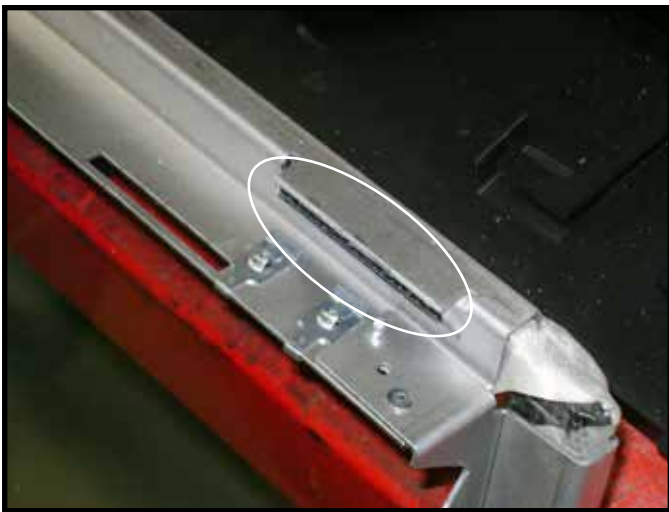
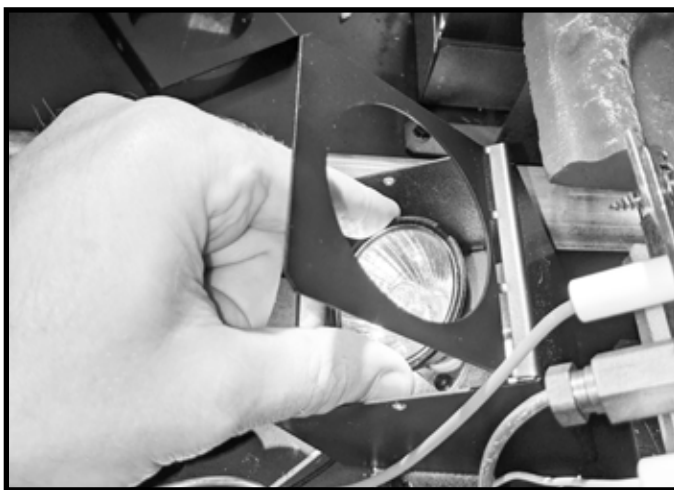
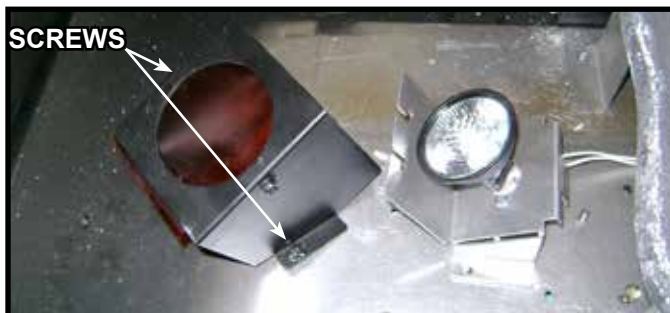

Figure 11.1 Glass Top Tab Detail.
Figure 11.12 Install Bulb
Figure 11.13 Light Housing Removed, Bulb Installed
1. Identify the top and bottom of the glass assembly. The top of the glass frame has three engagement grooves. The engagement groove is highlighted in Figure 11.1.
2. Install the two accent lights by either removing the two screws that hold the light housing to the firebox bottom as shown in Figure 11.13 or, for easy access, remove the two screws from the light housing cover. See Figure 11.1 Install bulb by inserting the 2 pins on the bulb base into the 2 holes in the socket. See Figure 11.12 or Figure 11.13.